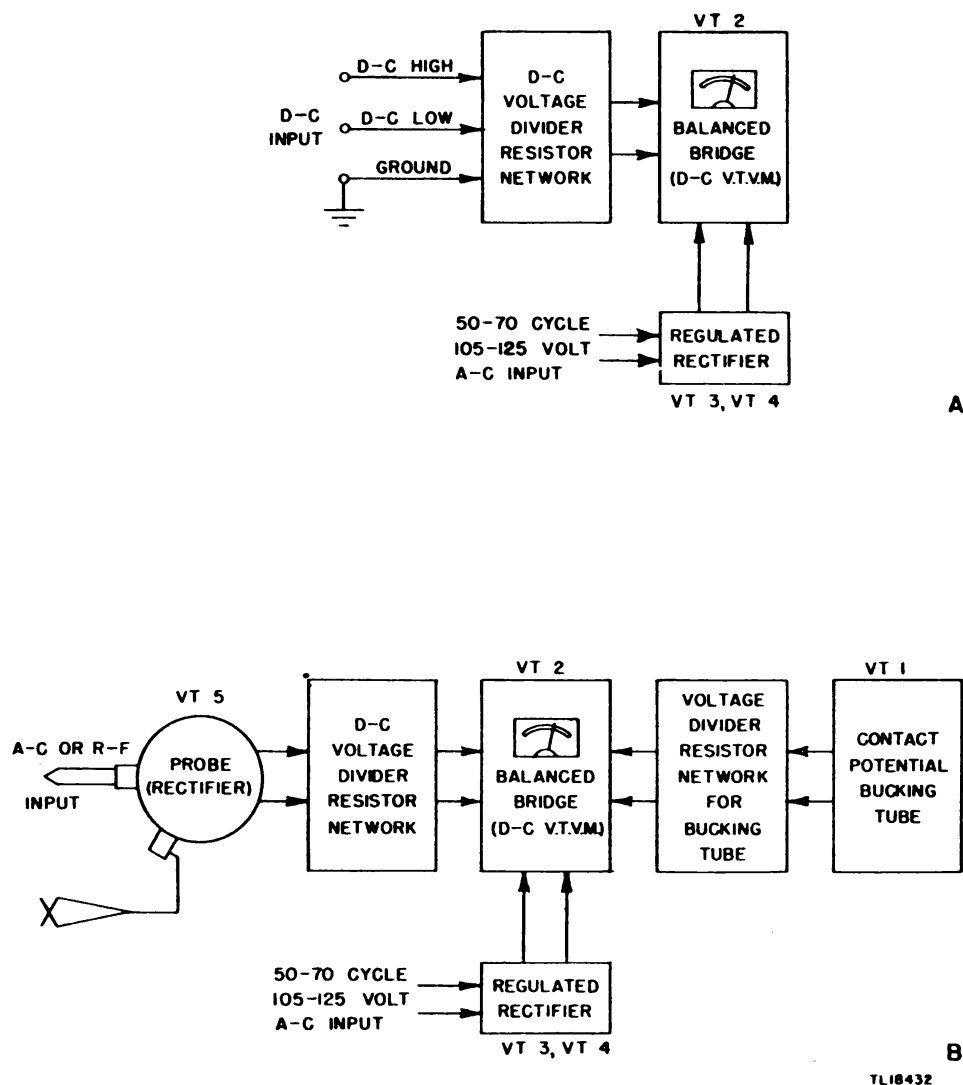

Figure 13. Vacuum tube voltmeter, block diagrams.
- (1) Block diagrams of the vtvvm (fig. 13).